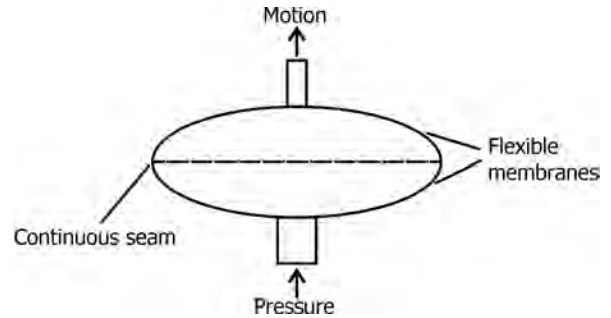

FIGURE 1.15 Capsule device for measurement of differential pressure.
- Figure 1.15 illustrates the principle.